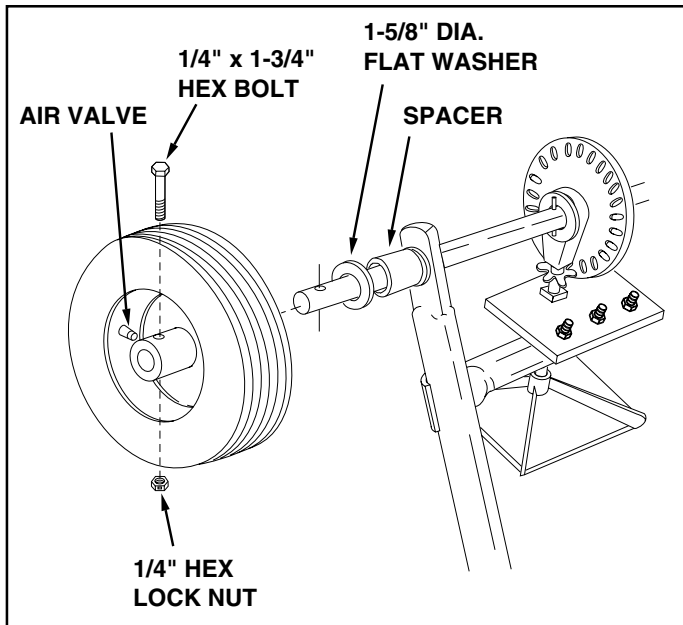

FIGURE 4
9. Assemble a spacer and a 1-5/8" flat washer onto the end of the axle that has the large hole. See figure 4.
10. Place a wheel (air valve facing out) onto the axle. Secure the wheel to the axle with a 1/4" x 1-3/4" hex bolt and a 1/4" hex lock nut. See figure 4.
1. If the axle, slotted gear and sprocket assembly is disassembled, mark down the positions of the parts as they are removed. The drive wheel and sprocket positions in relation to the slotted gear determine which direction the spreader plate will spin. Be sure to reassemble them in their original positions. (Refer to figure 4 on page 5.) Use shim washers (Ref. no. 21 on pages 10 and 11) as needed for minimum backlash. Add grease to gear and sprocket.